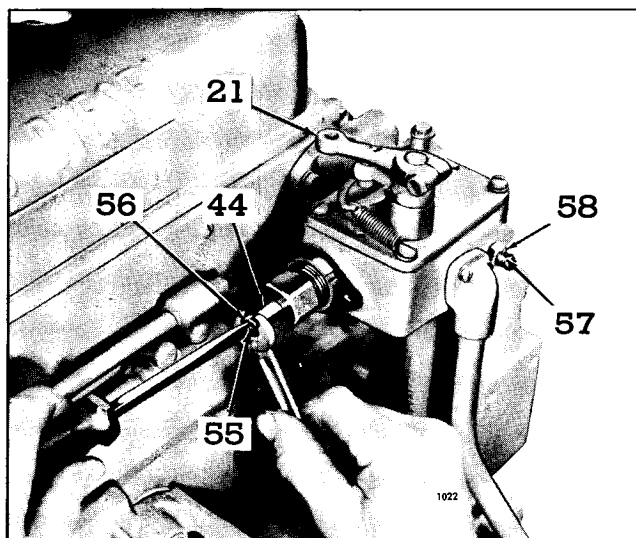

Fig. 6 - Adjusting Engine Idle Speed
2. With the engine at normal operating temperature and with the buffer screw (57), Fig. 6, backed out to avoid contact with the differential lever, turn the idle speed adjusting screw (55)